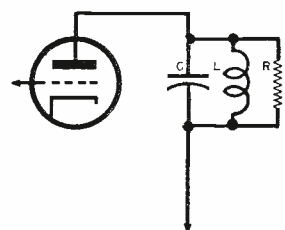

FIG. 7
- When a resistor is shunted across a tank circuit as shown in Fig. 7, (a) the gain of the stage is increased (b) the "Q" of the circuit is increased (c) the bandwidth of the stage is increased.